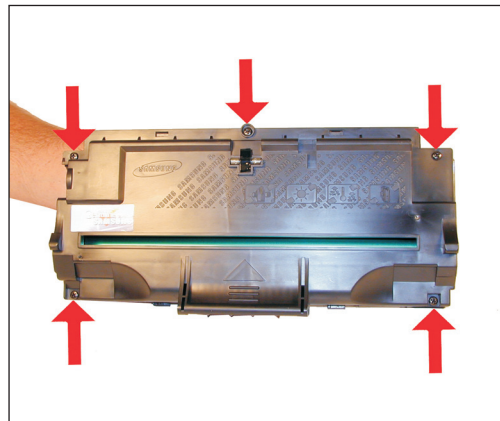

Figure 29
25) Install the five screws in the top cover. See Figure 29